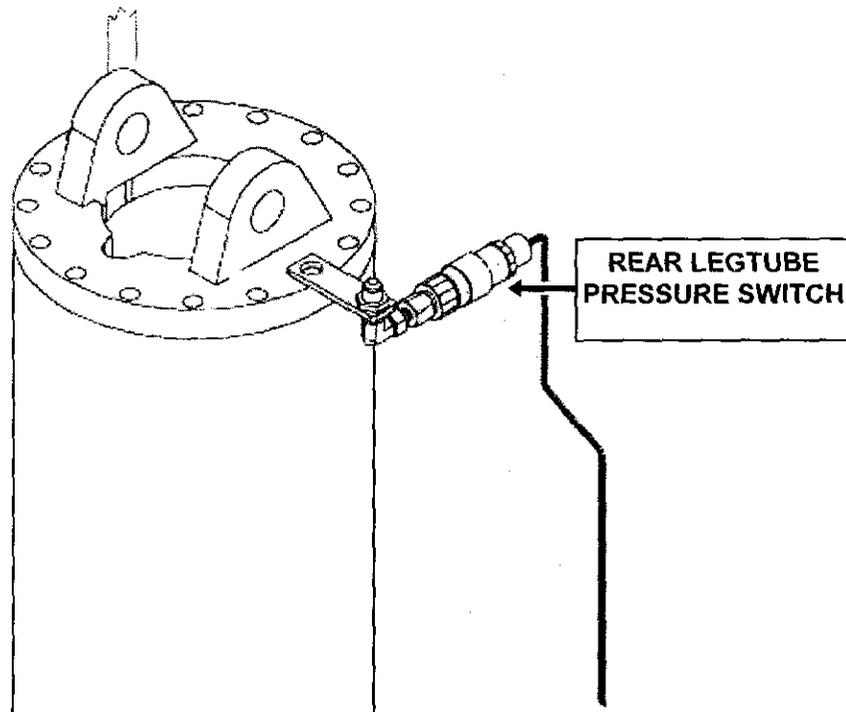

FIGURE 28
12. The rear leg tube pressure switch is located at the top of the rear leg tube. The hood wings will have to be raised to access it (figure 28).